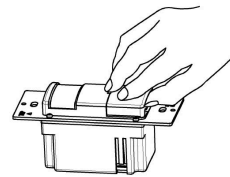

fig.1
5. Remove the small cover plate (see fig.1)
6. Locate the adjustment knobs on the control panel to perform test and adjustment (see fig.1)